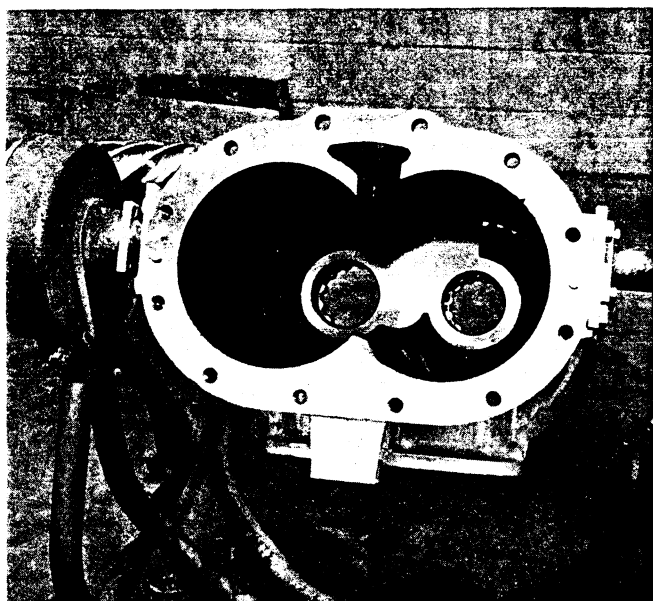

Figure 22
3. Clean rotor housing, making sure there are no burrs, nicks or dirt particles which will give false clearance readings — this step is important, failure to observe it can lead to loss of the air end. Refer to Figure 22.